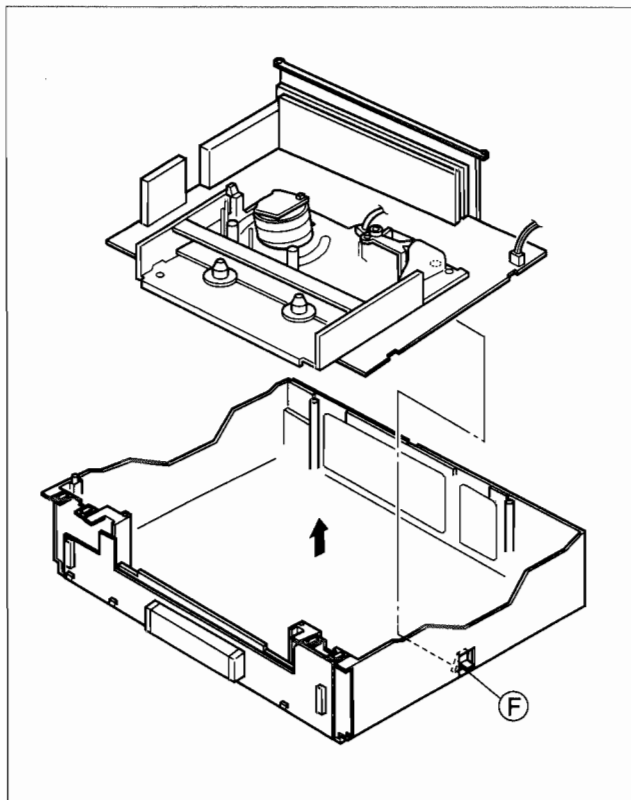

Fig. 1-4-2
- (6) Remove the hook (F) while holding the edge of the Main board assembly, and remove the Main board and Mechanism assemblies together. At this stage be careful of the power cord and prongs of the jacks on the back side. (Refer to Fig. 1-4-2.)